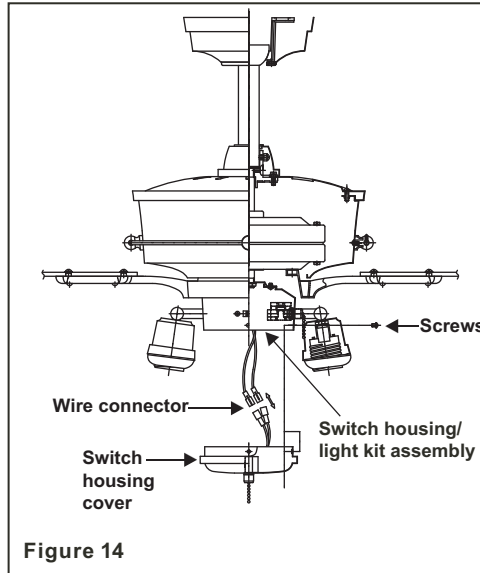

Figure 14
Step 1. While holding the switch housing cover under your fan, locate two single white and blue wires in the switch housing cover labeled FOR LIGHT. Make the polarized plug connections: (Fig. 14)
Step 2. Carefully push all wires back into the switch housing, then install the switch housing cover onto the switch housing with 3 screws provided. Be sure to tighten all screws. (Fig. 14)